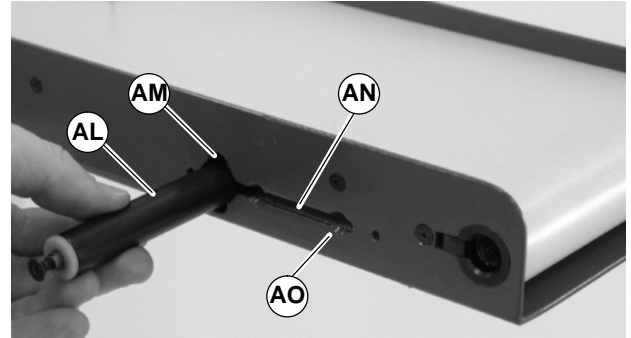

Figure 20
- Slide tension pin assembly (AL of Figure 20) along slot (AN) to hole in frame (AM). Remove tension pin assembly (AL) through hole.